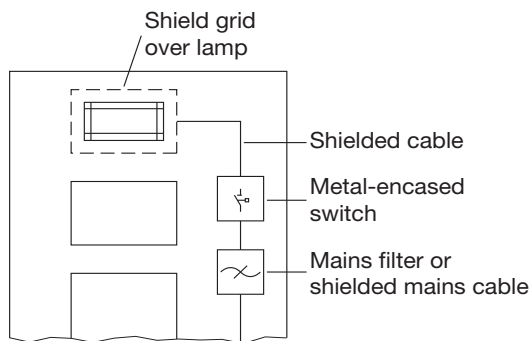

Figure 4: Interference suppression of fluorescent lamps in cabinet
- Do not use fluorescent lamps because they generate interference fields. If the use of fluorescent lamps cannot be avoided, the interference suppression measures shown in Figure 4 must be implemented.